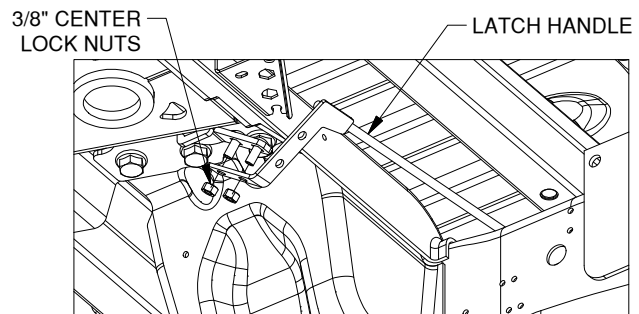

Figure D2: Looking back at driver side of center section.
2. **Install the latch pin handle.** Beginning under the vehicle, "thread" the end of the handle, with the vinyl grip, in front of the brake lines and over the frame on the drivers side. Attach the handle to the latching mechanism over the 3/8 carriage bolts with two 3/8 locking flange nuts, see figure D2. Be sure that the handle is in the proper position and that it does not interfere with any other components of the vehicle. Torque the nuts to 30 ft. lbs. to secure the handle.